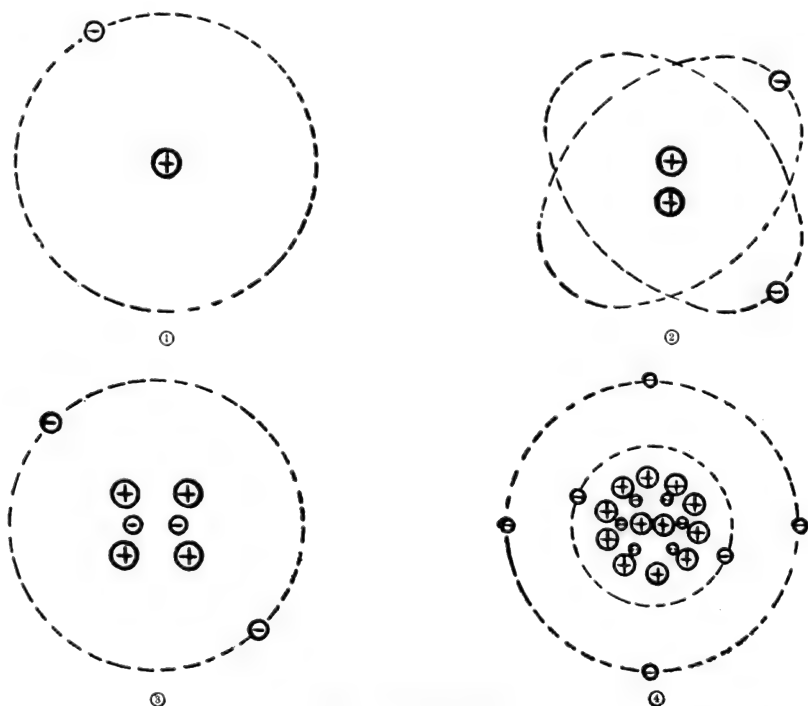

Fig. 1. Atomic Structure
Fig. 1 shows several of these atom structures. Fig. 1 ① shows the simplest atom; ② and ③ are atoms with a slightly more complex structure; and ④ is supposed to represent a carbon atom. Note that in Fig. 1 ③ and ④ there are a few electrons trapped inside the nucleus. These might be called *nuclear electrons*.